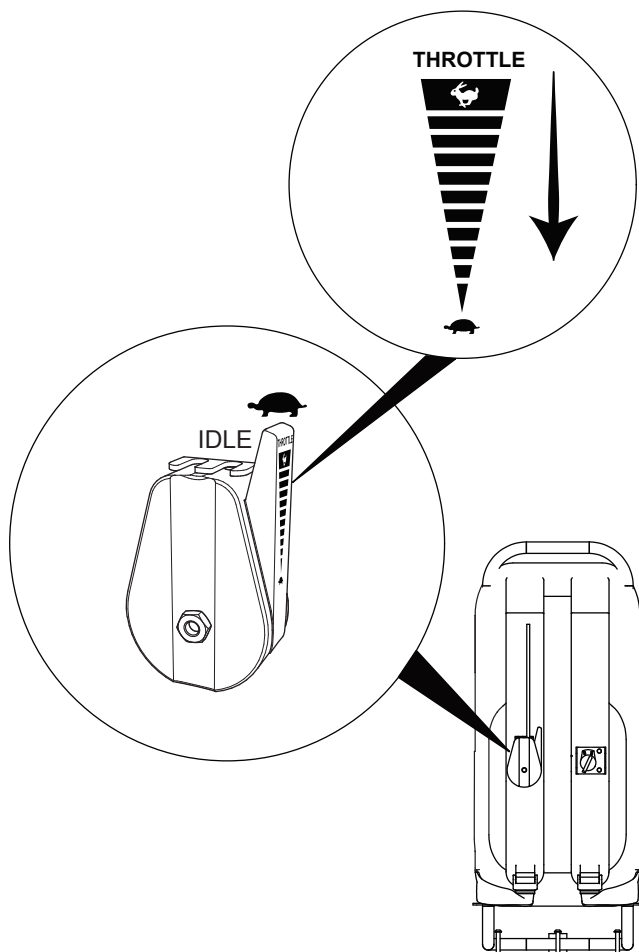

Figure 20. Throttle (Turtle/Idle Position)
2. Place the throttle lever in the **UP** position (**TURTLE**) and run the engine for three minutes at **idle** speed. See Figure 20.